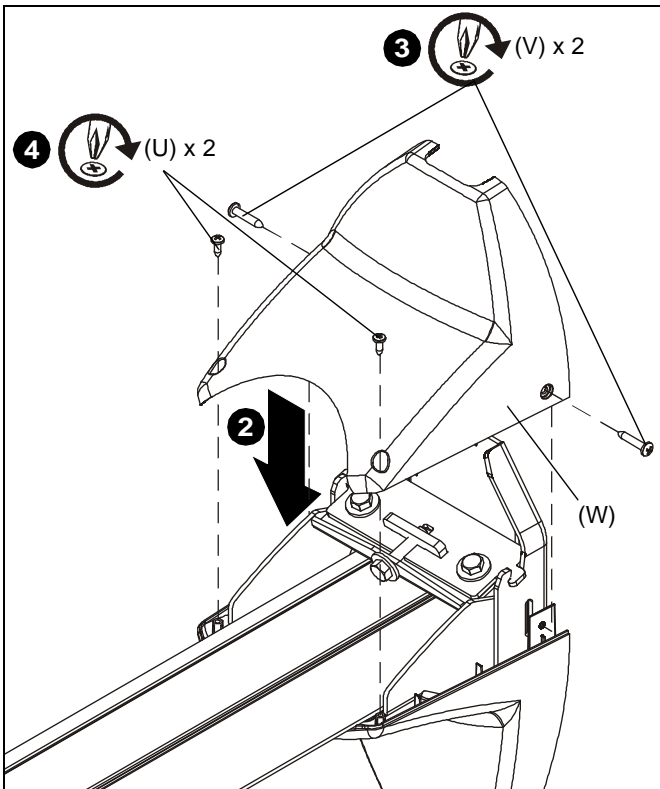

Figure 13
2. Lower top cover (W) onto WMA1S. (See Figure 13)
3. Install two #10 x 1" Phillips pan head tapping screws (V) through holes on sides of covers. (See Figure 13)
4. Install two #8 x 1/2" Phillips pan head tapping screws (U) into top of top cover (W). (See Figure 13)